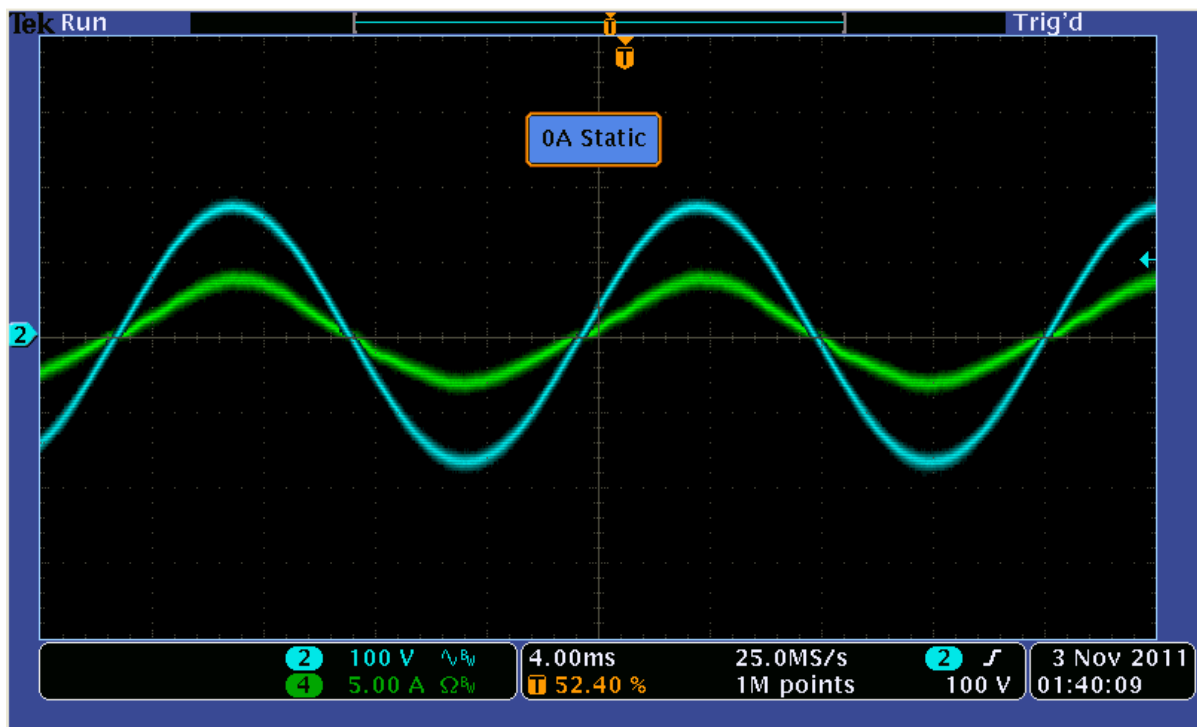

Figure 10 - Grid-Tie Test 2, Ch2: Grid Voltage, Ch4: Solar Inverter Output Current,
- Repeat the steps as described for the previous load set up. For this test, the PV panel emulator is set up to deliver 330W of power. Therefore, the Inverter, when turned on, will deliver about 330W load power at 120V/60Hz and so the AC source output power will drop from initial 480W to about 150W. The waveforms in Figure 10 below show the grid voltage and the inverter output current under this condition.